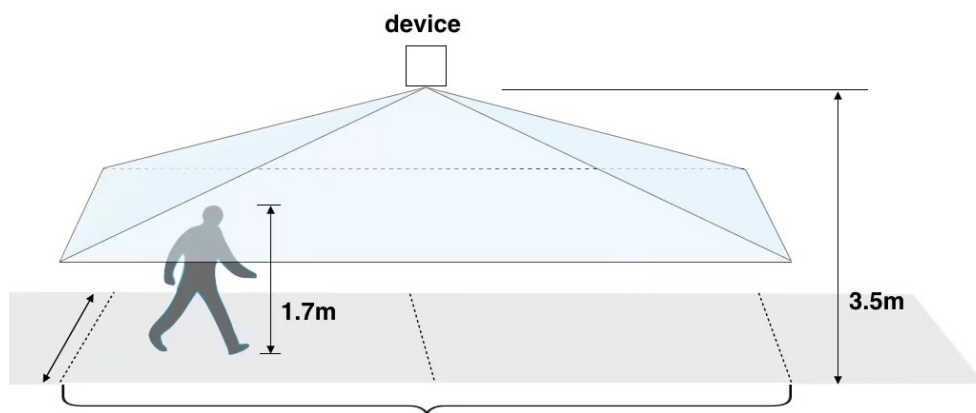

Figure 2-7 Example of equipment installation height
(1) Installation height: refers to the height of the equipment from the ground, as shown in Figure 2-7. Whether the data is accurate is very important to the passenger flow data, so please be sure to set this parameter accurately;